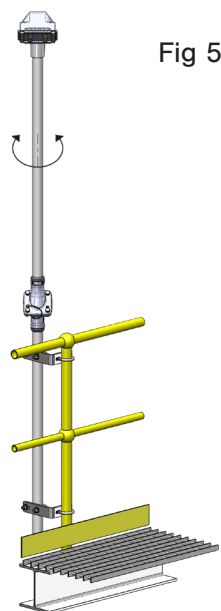

Fig 5
- If adjustment is required, loosen the top grub screws and rotate the pole top. (Fig 5)